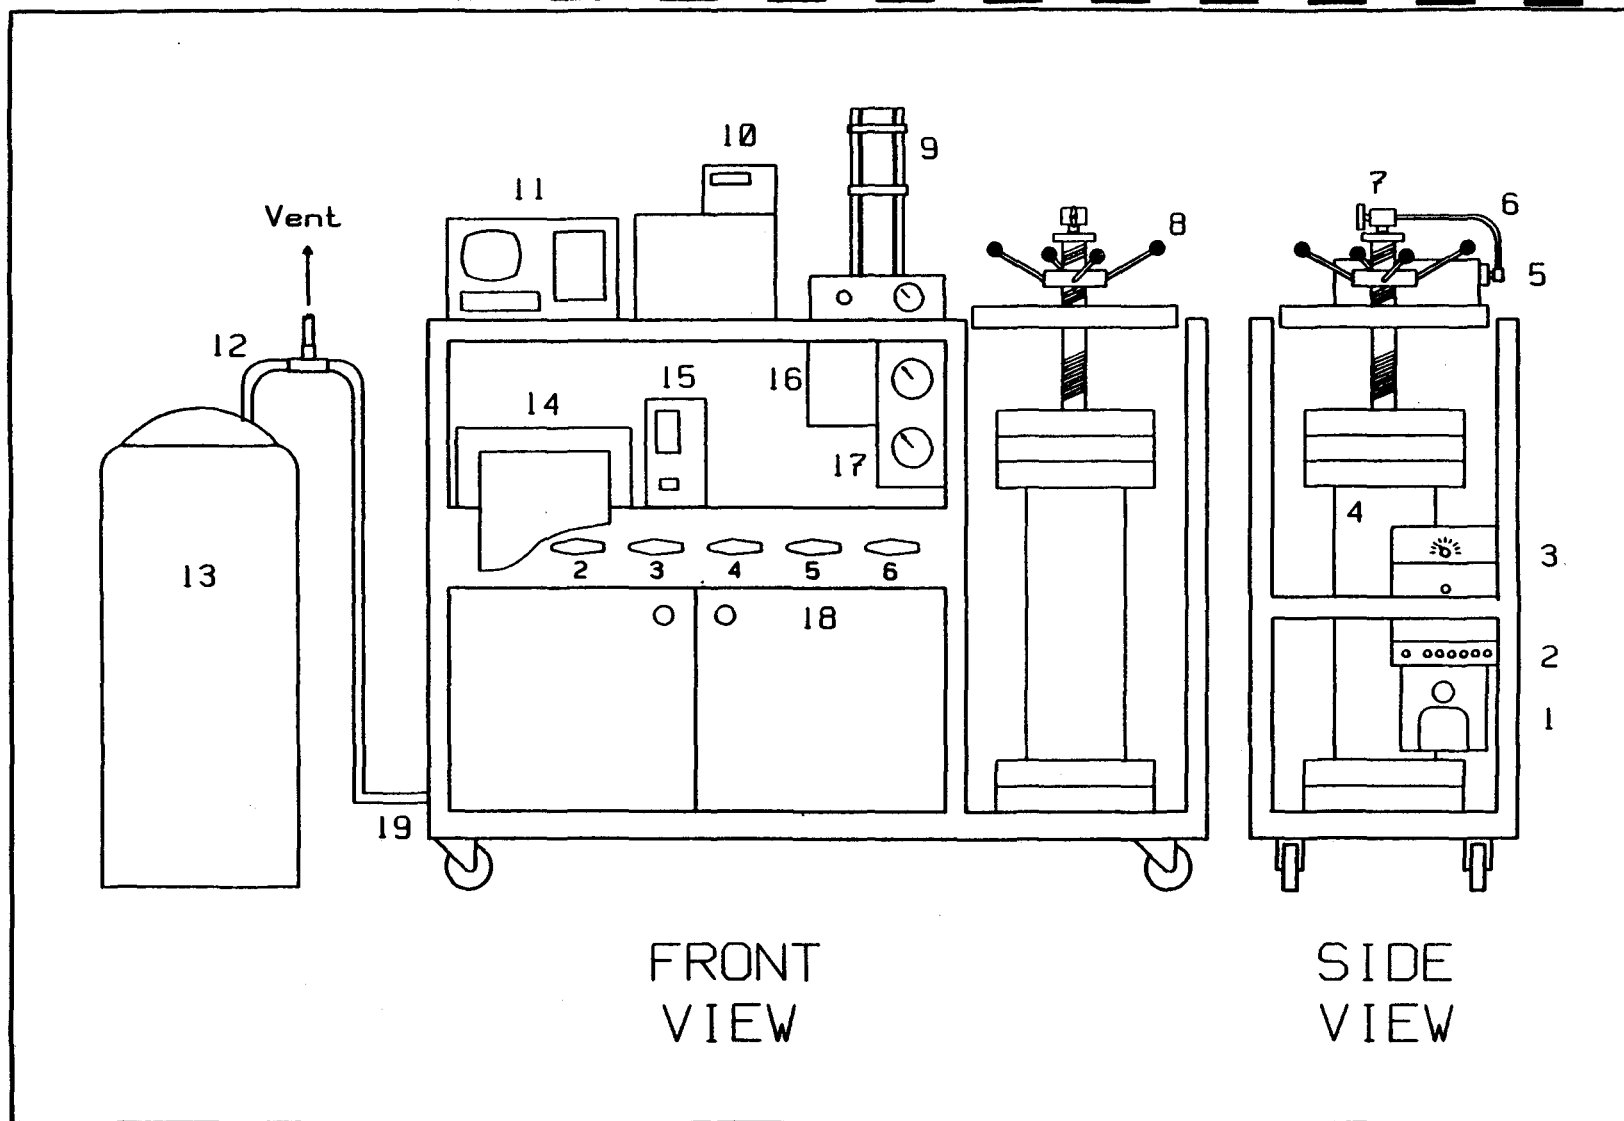
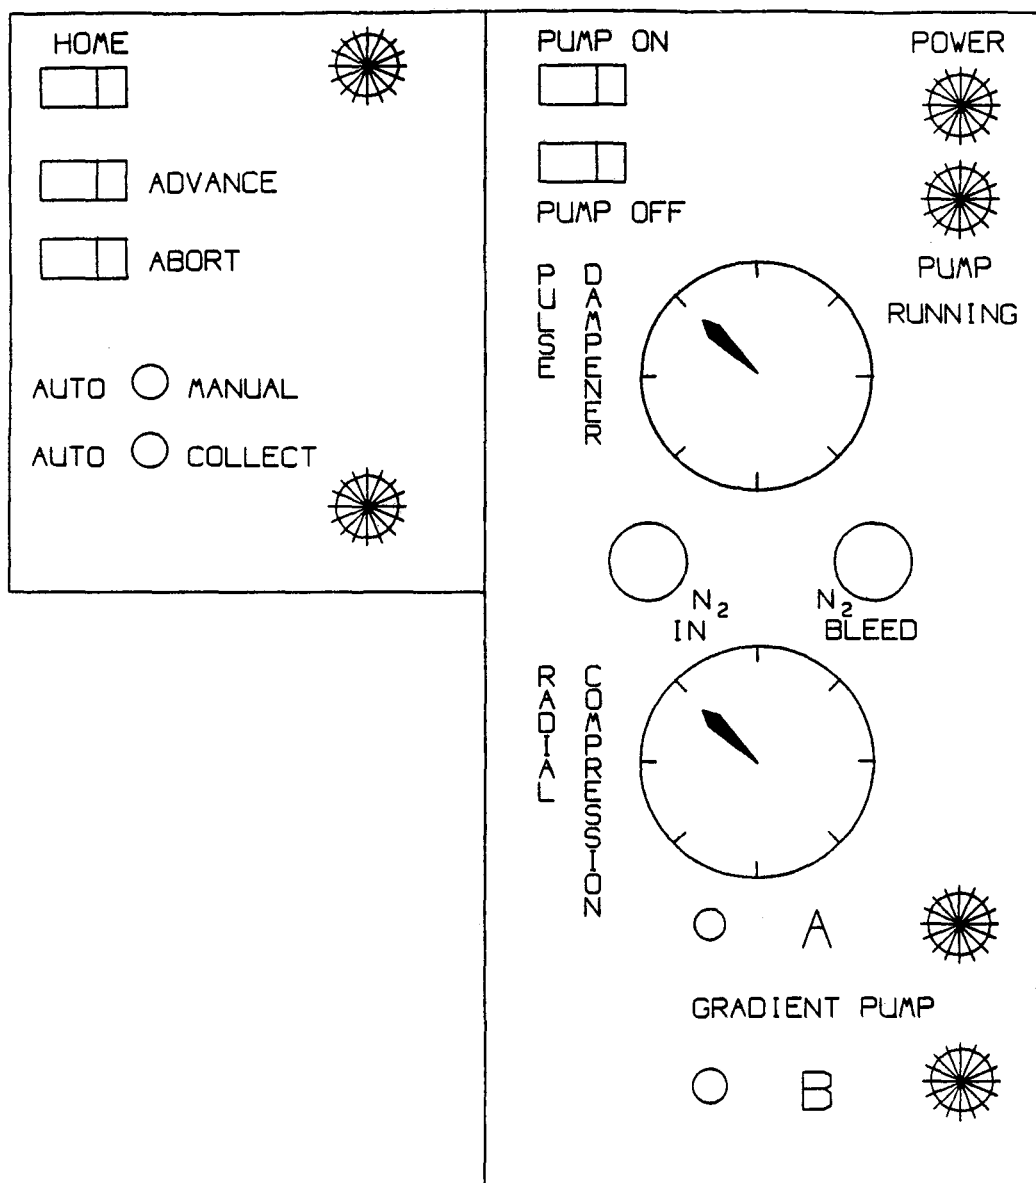

Fig. 20. Schematic diagram of the high performance liquid chromatograph.
Fig. 21. Control panel of the high performance liquid chromatograph.
The system has been modified to include a smaller column (5.7 cm x 30 cm) containing the same column packing as the process-scale column. This smaller column permits continued methods development while requiring less solvent and sample. The Kiloprep 250 is capable of gradient elution, although this procedure cannot be used with the differential refractometer that detects the elution of sample components. Instead, the gradient elution module is used to prepare the ethanol/water solvent. The equipment is illustrated schematically in Figures 20 and 21. A separate pump has been added to deliver the sample directly to the head of the column, thereby greatly reducing the dead volume of the system and improving separation of the eluted fractions.
1. Turn on the circulating water bath ([10], Fig. 20) and set at 35°C if necessary.
- e. Turn on gradient pumps (inside instrument cabinet) using the toggle switches on the control panel (Fig. 21). The pumps are set to deliver ethanol and water in a ratio of 80 to 20 (v/v).
4. Adjust the pressure on the pulse dampener to 550 psig by admitting or bleeding N₂, using the valves on the control panel (Fig. 21).
5. Radial cartridge pressure (Fig. 21) should be 350 psig.
6. Turn valve 5 [18] (Fig. 20) on the front panel to the 'COLLECT' position.
7. Set both toggle switches on the smaller control panel to <AUTO>, press the <HOME> toggle switch and start the solvent feed pumps (Fig. 21).
9. Flush the column for 3 min, then flush reference cell of the RI detector for 1 min, using the flush valve located on the panel below the detector ([3], Fig. 20). However, if the column contains 100% ethanol (due to washing the column after the previous day's work), flush the column with ethanol/water (80/20, v/v) until the pulse dampener pressure gauge (Fig. 21) reads 900-1,000 psi. Now, the reference cell can be flushed.
container and flush the line with sample. The valve ([7], Fig. 20) on top of the column should be in the vertical position.
12. To inject the sample, turn the column valve ([7], Fig. 20) to the horizontal position and set the sample pump switch to the <RUN> position. For each 10 g of sample injected, operate the sample pump for 1 min and 6 sec. Once the amount of sample desired has been injected, turn the sample pump switch to <STANDBY>.
14. Start the solvent pumps and strip-chart recorder. Press the unlabeled key that lies immediately below the 'START RUN' command on the monitor of the Waters 600 module (multi-solvent delivery system [11], Fig. 20).
16. Attach labeled receivers to the proper outlets ([2], Fig. 20) of the 6-port fraction collector valve.